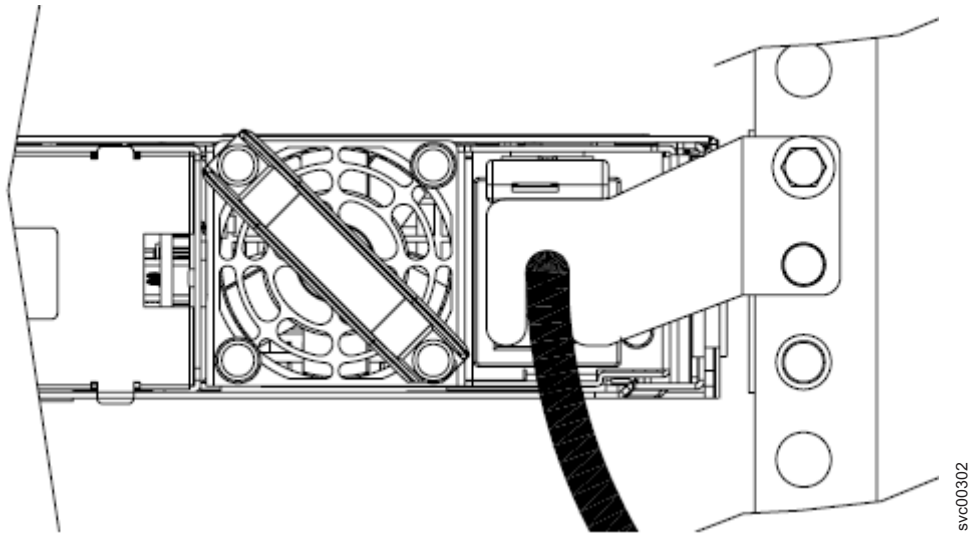

Figure 30. The SAN Volume Controller 2145-8G4 with cable-retention bracket type B attached
2. At the back of the cabinet, remove the securing bolt from the node side rail next to the power supply, as shown in Figure 30 on page 45.